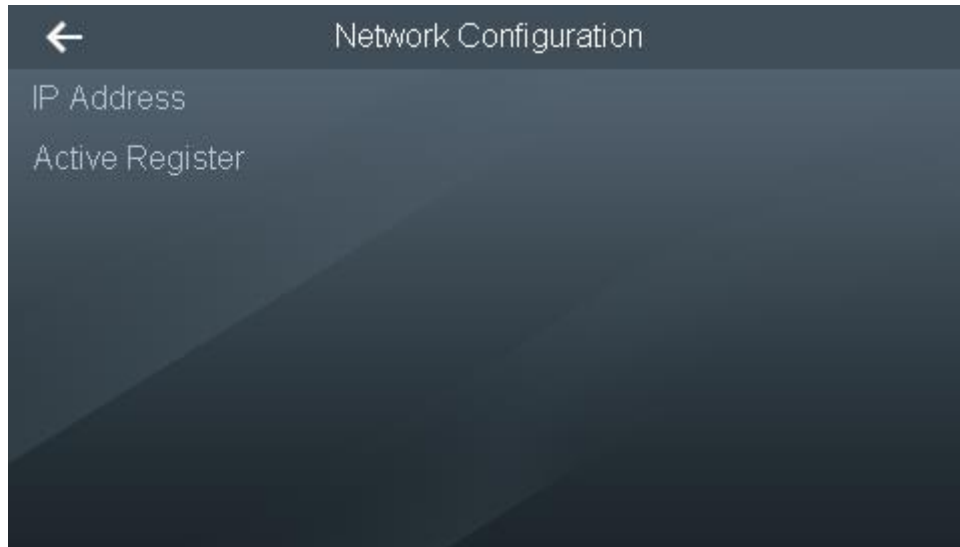

Figure 3-11
Step 1 Select “Connection > Network Configuration”, and the screen displays Figure 3-11.